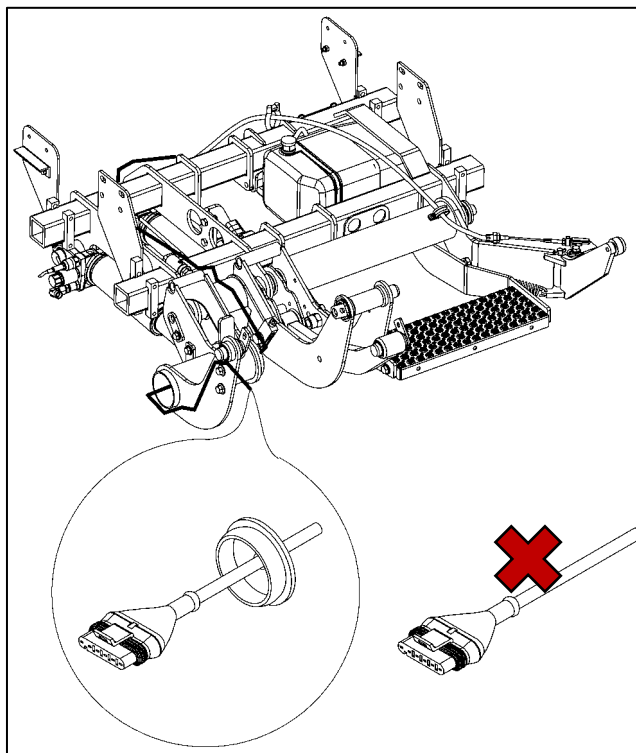

Fig. 15
- Route the control unit cable for platform connection (white plastic cover) to the swing-arm assembly in the center of the vehicle (Fig. 15).